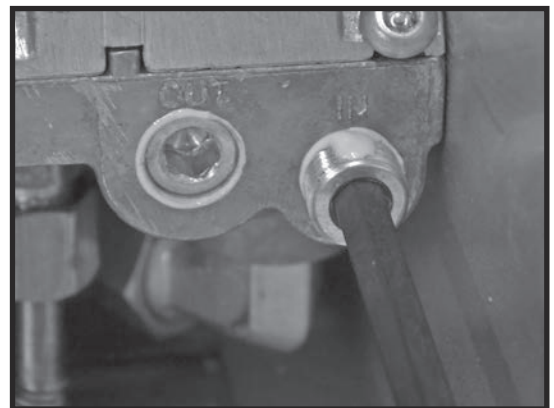

Figure 45: Testing port caps with thread sealant.
6. After testing is finished turn off gas supply, remove the pressure gauges, apply thread sealant to cap ends and re-tighten (Figure 45).